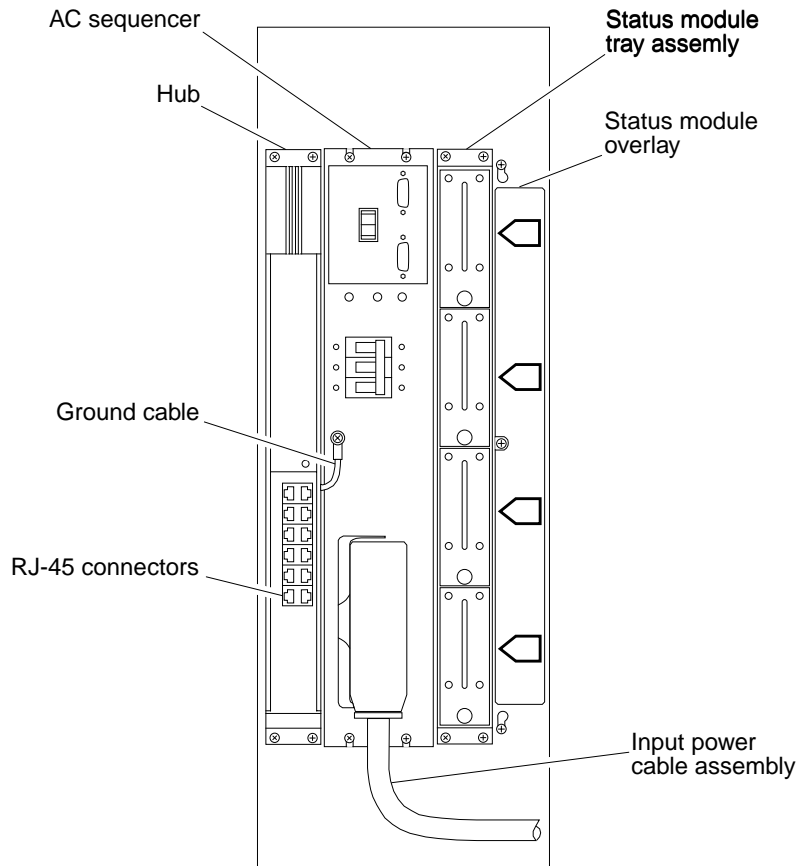

FIGURE 19 Equipment Installation in the Front 4U Panel
Install the status modules, AC sequencer, and hub in the front 4U panel (FIGURE 19).
- 7. Install the hub in the 4U panel. Make sure the RJ-45 connectors are oriented toward the lower half as shown in FIGURE 19.**